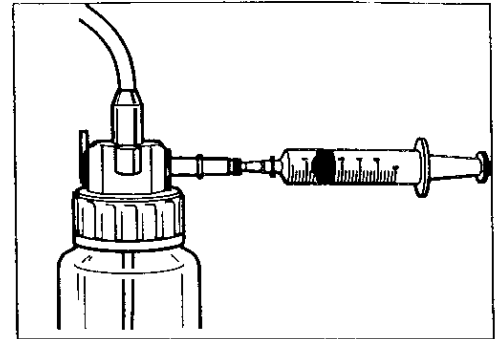

Fig. 61
2. Internal surfaces of the water bottle assembly may be exposed to the sterilant by injecting the sterilant into the air pipe stem (opposite the A/W-Drain lever on the water bottle cap) using a syringe. The A/W-Drain lever should be in the A/W position to ensure contact with all internal tubes (Fig. 61).